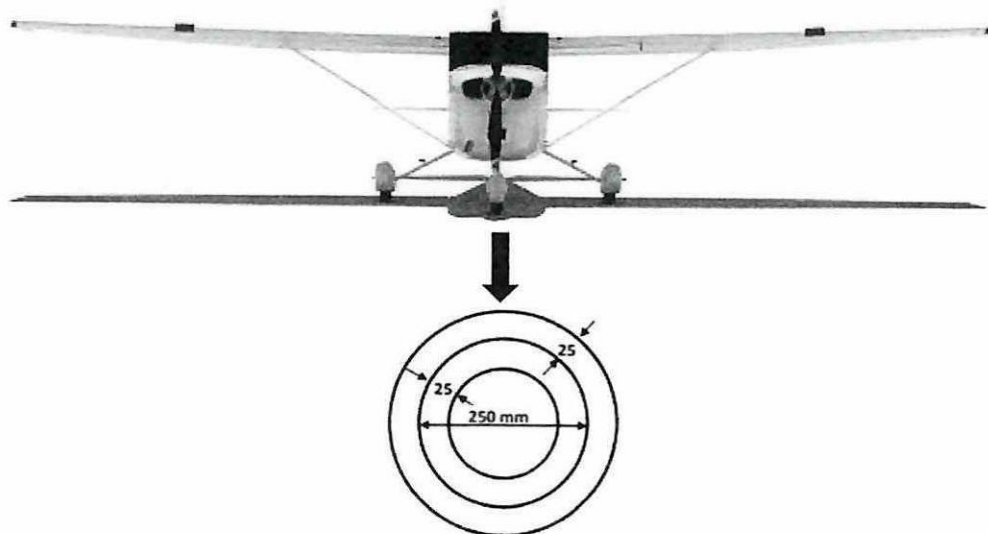

Figure Q5(c)
- Q5** (a) Describe **three (3)** characteristics of a thick cylinder. (3 marks)
- (b) Explain **two (2)** assumptions made in Lamé's Theory. (2 marks)
- (c) A compound tube used in Cessna Skyhawk landing gear is formed by shrinking a tube of 250 mm internal diameter and 25 mm wall thickness onto another tube of 250 mm external diameter and 25 mm wall thickness. The cross section of the tube is shown in **Figure Q5(c)**. Both tubes are made of high-strength-low-alloy (HSLA) material. The stress set up at the junction owing to shrinkage is 10 MPa. The compound tube is then subjected to an internal pressure of 80 MPa. Determine the final stress setup across the section. (15 marks)
- Q6** (a) List **two (2)** examples of elastic failure theories. (2 marks)